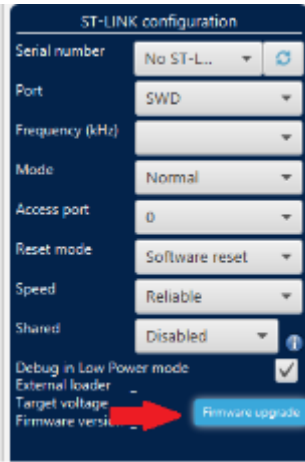
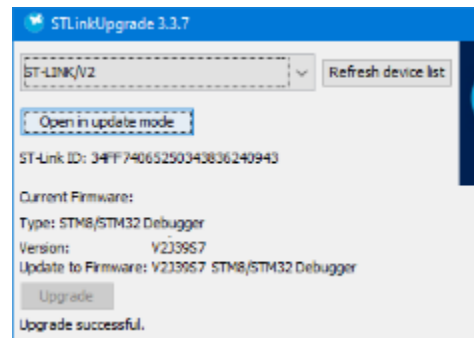

fig. 17 – Click Firmware Upgrade
fig. 20 – Close the Window
2. Proceed to upgrade the firmware as described from fig. 17 to fig. 20. The PC must be connected on internet.